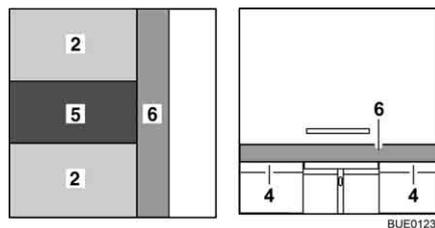

Fig. 93 After conversion
- Place the additional cushion (Fig. 93,5) on the table.
- Lay the additional cushion (Fig. 93,6) on the bedding box extension (Fig. 93,4).